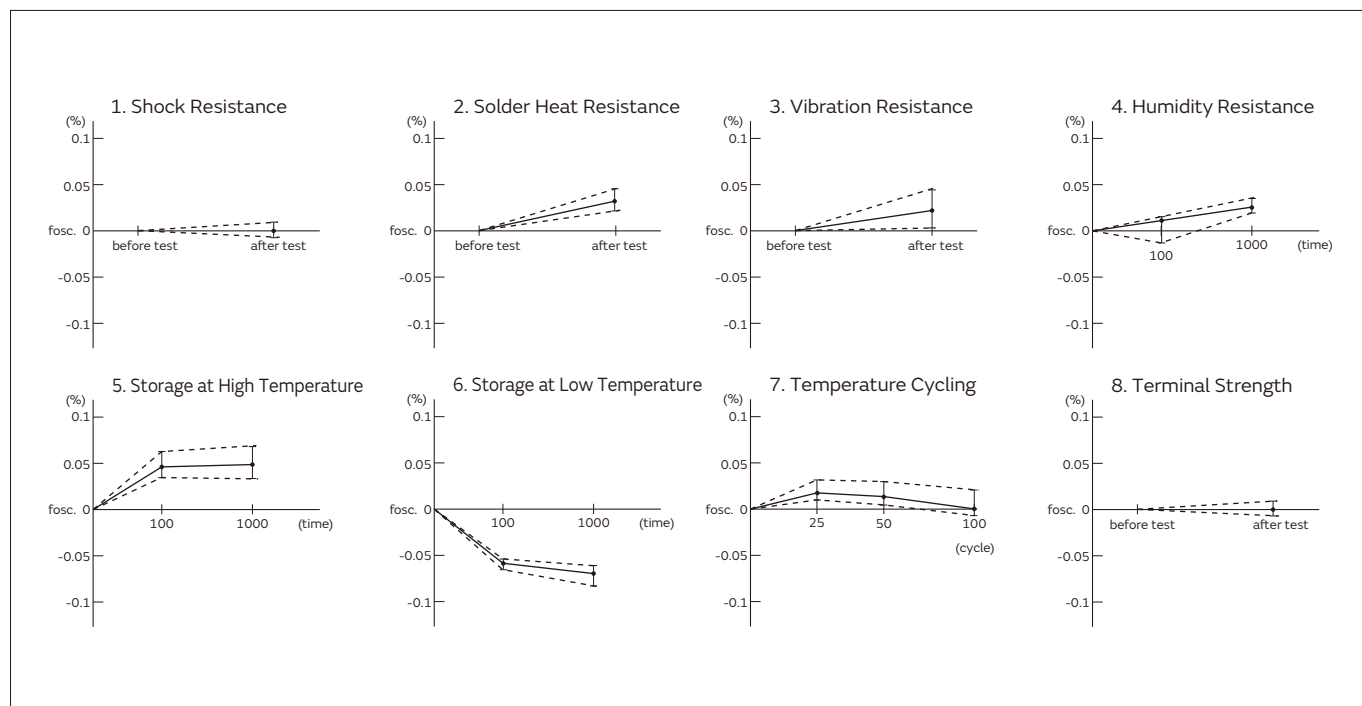
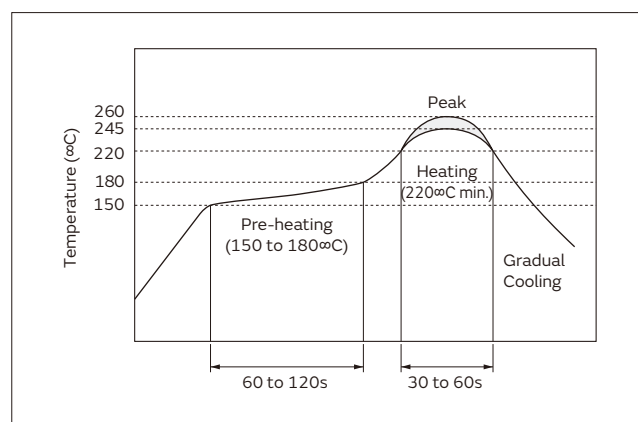

Fig. 3-2 General Changes of Oscillation Frequency in Each Reliability Test (CSTLS4M00G53-B0)
Fig. 3-3 Reflow Soldering Profile for MHz Band Chip CERALOCK®
Fig. 3-2 shows the changes of oscillation frequency in each test, the table on the next page shows the criteria after the tests, and Fig. 3-3 shows the reflow soldering profile.
2. Soldering Heat Resistance	Lead terminals are immersed up to 2.0 mm from the resonator's body in solder bath of [c], and then the resonator shall be measured after being placed in natural condition for 1 hour.* 1 Reflow profile show in Fig. 3-3 of heat stress is applied to the resonator, then the resonator shall be measured after being placed in natural condition for 1 hour.* 2